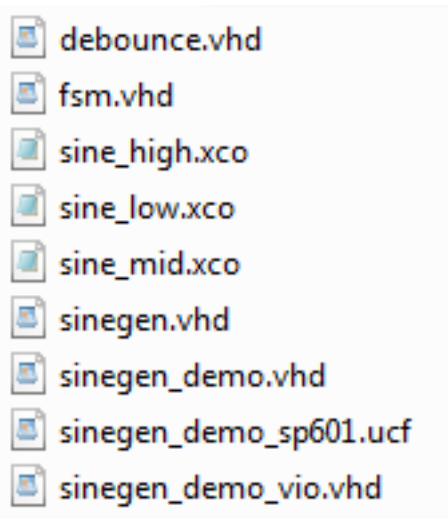

Figure 2: Tutorial Design File Set
4. When unzipped, look in ChipScope_PlanAhead/PlanAhead_Tutorial/Sources/chipscope/pa_cs_tutorial/src for the files and folder shown in Figure 2.